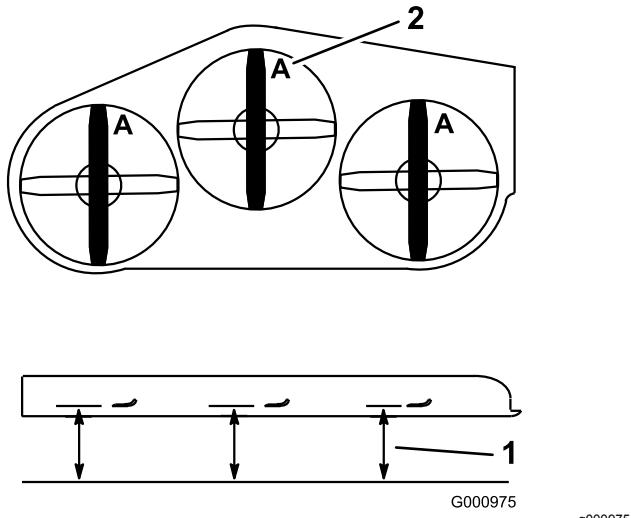

Figure 101
4. Measure from a level surface to the cutting edge, position **A**, of the blades (Figure 101).